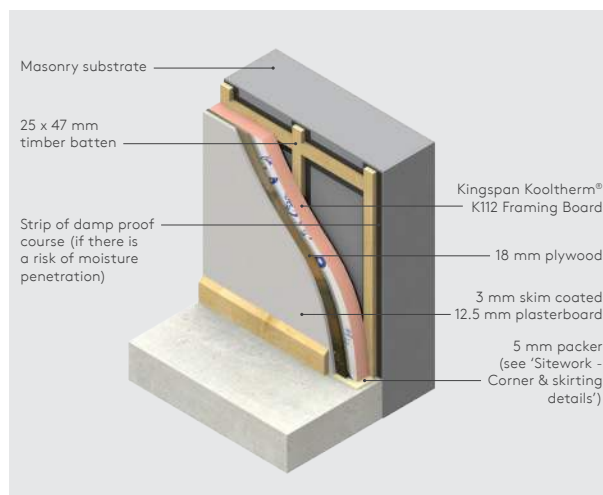

Figure 9: Mechanically fixed construction suitable for heavy internal fittings
- Alternatively, where there are to be extensive heavy internal fittings, the construction outlined in Figure 9 can be adopted.